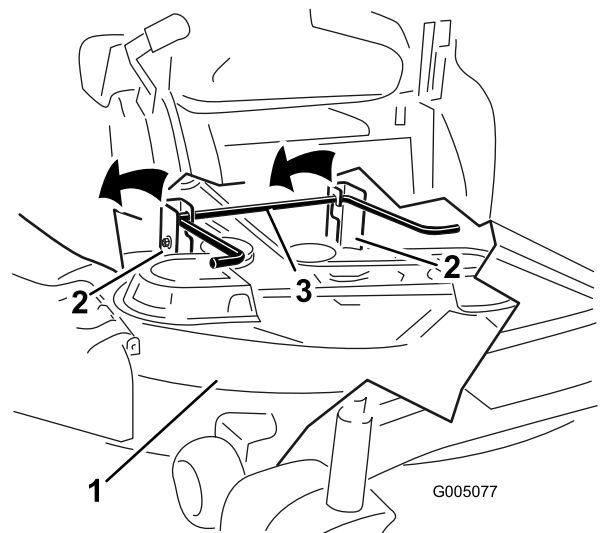

Figure 66
1. Deck-lift spring (2)
7. Lift the mower deck and hanger brackets clear of the rear lift rod and lower the mower carefully to the ground (Figure 66).
5. Lift the rear of the mower deck and guide the hanger brackets over the rear lift rod (Figure 66).